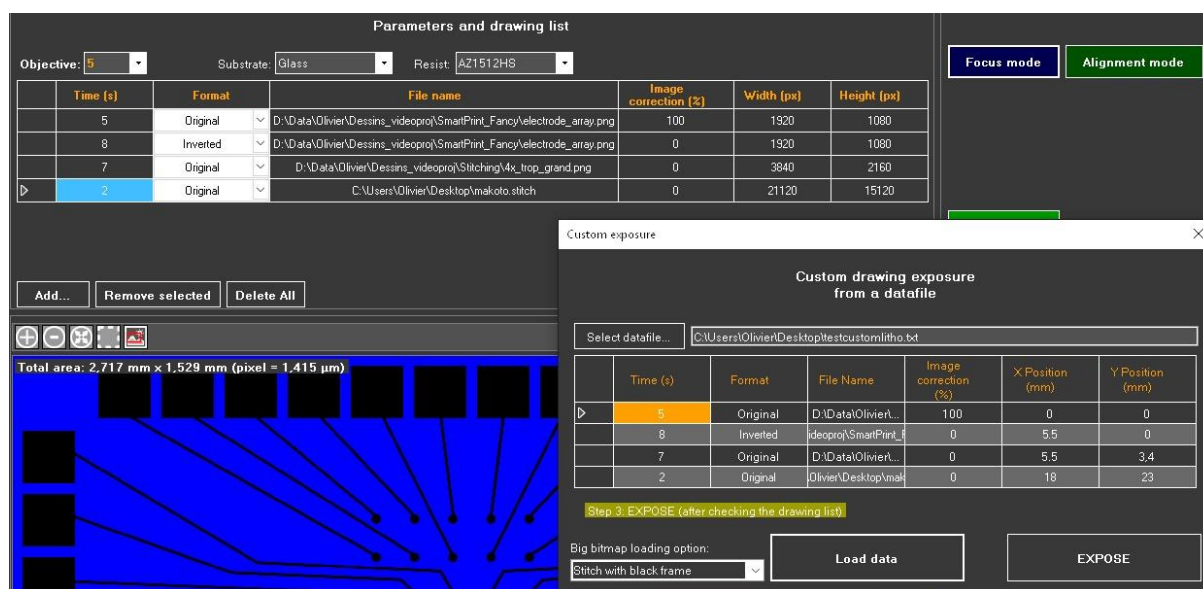

Figure 48 – Custom exposure: data loaded and ready for exposure
- Choose how big drawings must be considered by selecting the appropriate option on the drop-down list **Big bitmap loading option** then click on **Load data**. The list of drawing will update on the main window in the **Parameters and drawing list** panel (Figure 48)
- Click on **EXPOSE** in the **Custom exposure** window (Figure 48)